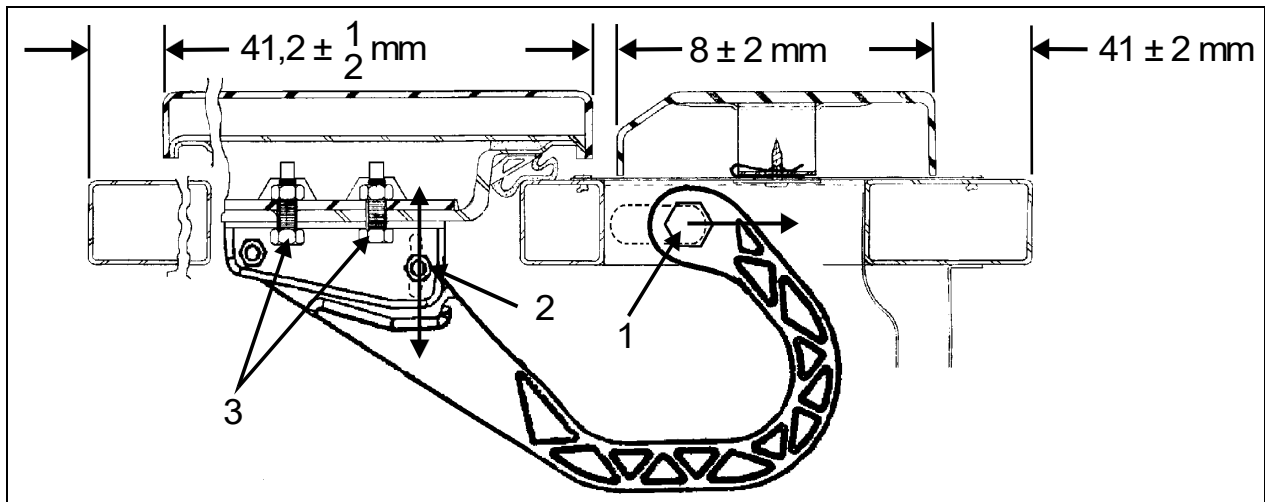

FIGURE 96: EVAPORATOR DOOR
8. Loosen screws (4, Figure 96).